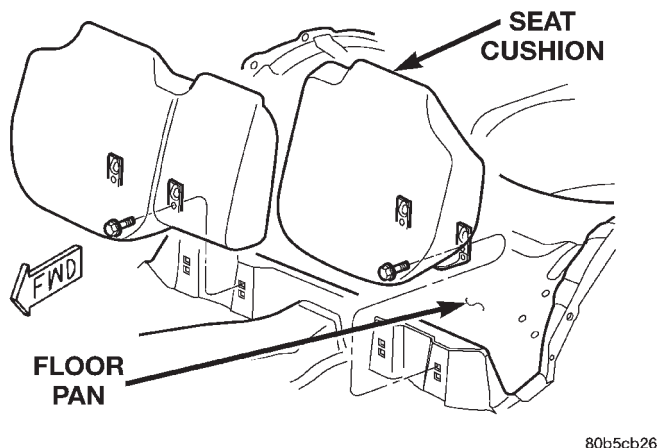

Fig. 9 Rear Seat Cushion
- (1) Disengage seat cushion at rear by pulling upward on release strap.
- (2) Remove bolts attaching seat cushion to floor pan (Fig. 9).
- (3) Remove seat cushion from vehicle.